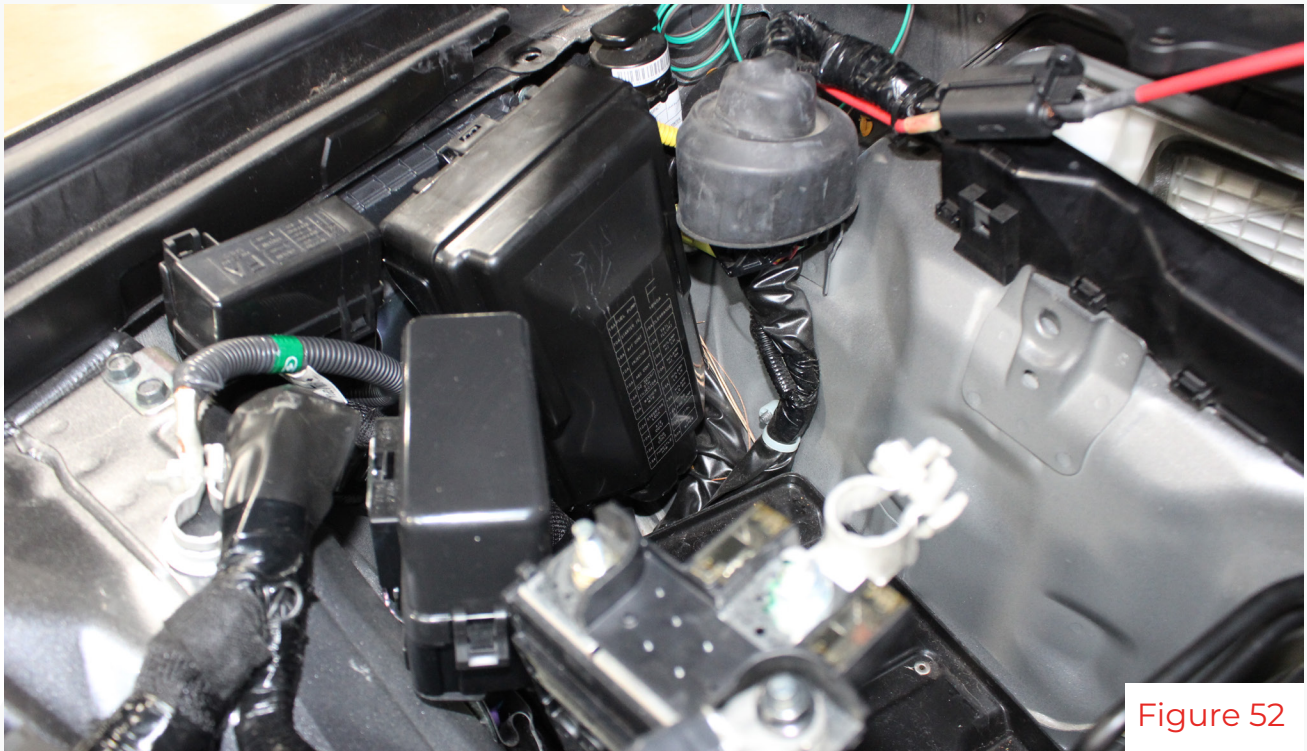

Figure 52
25. Remove the battery to gain better access to the IPDM/fuse box.(fig 52)